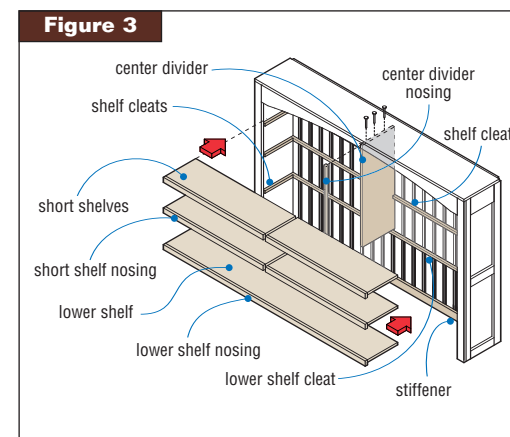

Figure 3
Step 3: Attach the countertop and front frame pieces (see Figure 3).
Step 4: Attach shelves, dividers, nosing, and stiffener (see Figure 3).